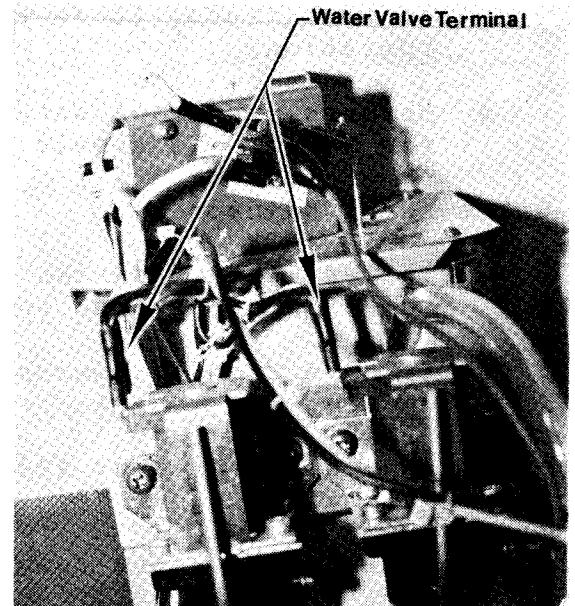

Fig.16
- Disconnect wires from the heater safety switch, the water level switch, and the heater element. Label these wires as they are removed to facilitate re-connection (FIGURE 16). Remove the water valve(s) by removing the (2) screws holding it to the bracket, removing the two wires on the switch and pulling the valve forward to remove it from the tank. (If the machine has a hot chocolate or hot water valve, the dispense hose must also be pulled from the valves). Each water valve has a soft "O" ring that is easily damaged if care is not taken when inserting it into the tubes. Wet the "O" ring before inserting in into the water tube. (FIG 14)